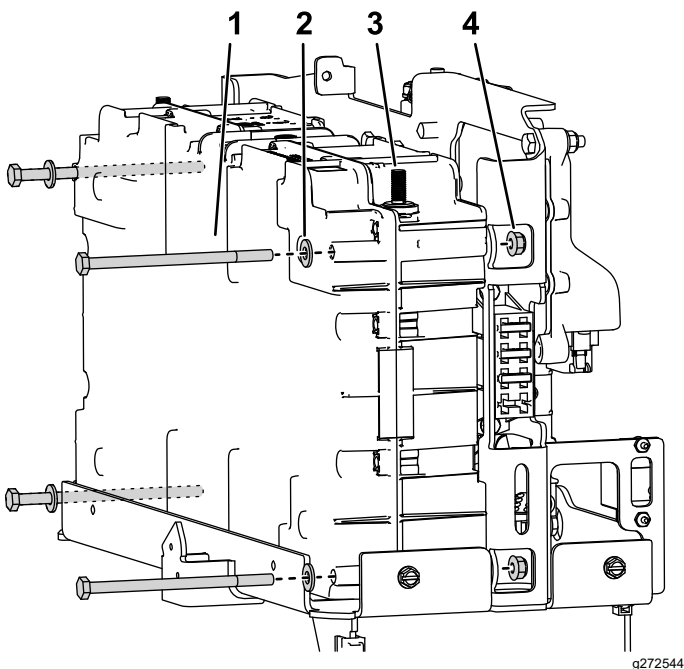

Figure 8
- Place the battery in the battery platform and install the hardware as shown in Figure 8.